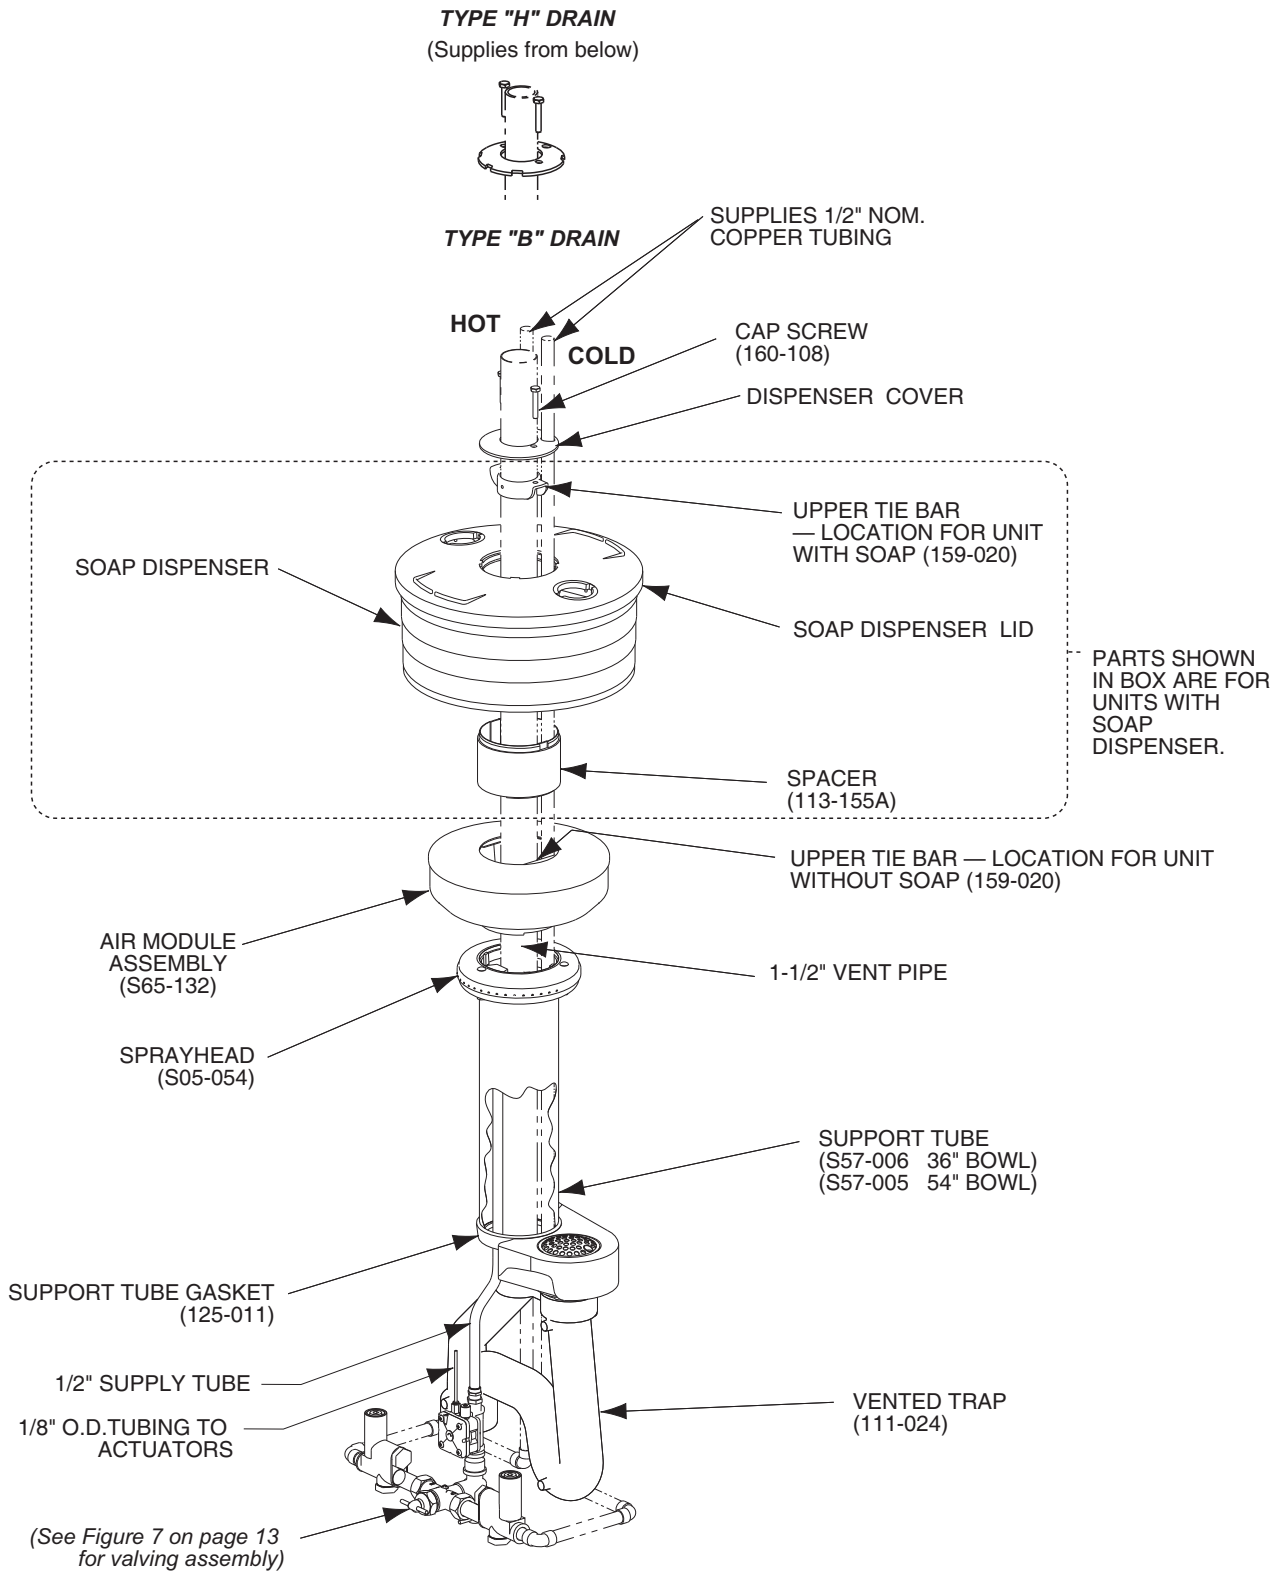

Figure 6
1. Install hemmed end (not sharp end) of support tube with gasket onto bowl as shown in Figure 6 on page 12.
3. Place sprayhead with 1/2" tubing onto support tube as shown in Figure 6 on Page 12. Run tubing down through support tube.
- 8a. **FOR UNITS WITH SOAP OPTION:** Place the spacer, soap dispenser and cover in position on top of air module (see Figure 6). Slide tie bar over 1-1/2" vent pipe 1/2" below top of soap dispenser lid and secure with the two cap screws included with the tie bar. Slide the dispenser cover over 1-1/2" vent pipe and secure with the two cap screws included with the tie bar.